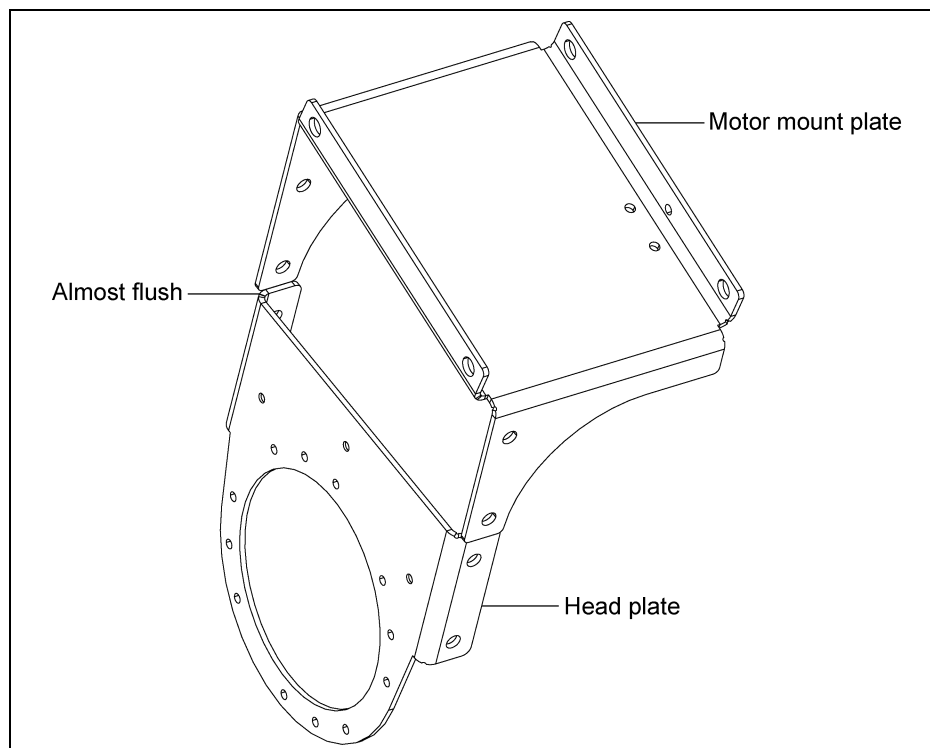

Figure 4F
1. Position the motor mount plate over the new head plate so that the motor mount plate is almost flush with the new head plate. (See Figure 4F.)